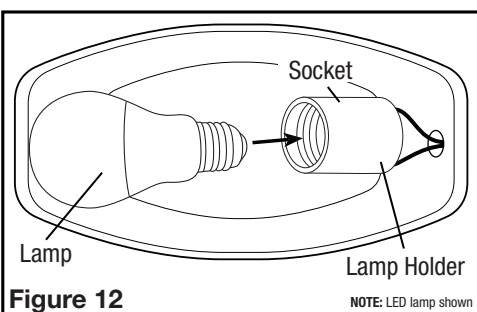
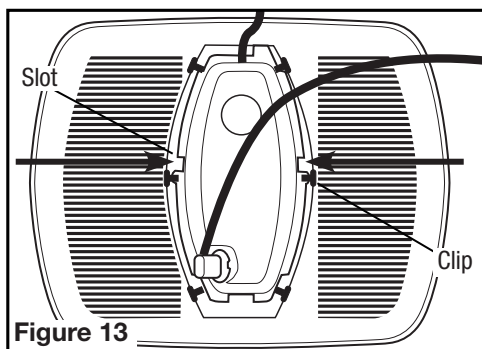

Figure 12
Figure 13
4. Install the included lamp into the lamp holder by inserting the base of the lamp into the holder and turning the lamp body clockwise until the lamp is firmly seated in the lamp holder - do not overtighten (**Figure 12**).
5. Install the reflector onto the grill by placing the slots on the side of the reflector over the lens clips near the center of the grill. While squeezing the middle of the reflector, slide it so that the plastic notches rest under the lens clips and the reflector feels secure (**Figure 13**).
3. **Changing the Lamp:** Disconnect power to the unit. Remove grill by pulling downward on grill and squeezing grill springs together to release from housing (**Figure 13**). Remove Reflector from grill by sliding the reflector notches from beneath the lens clips on grill. (**Figure 12**).